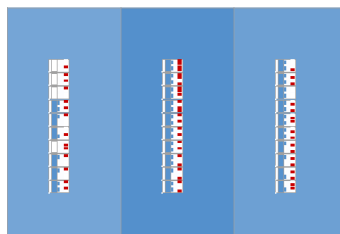

Figure 25: A portion of the expanded view.
6. A Zoom Tool, activated by the icon  in the left hand toolbar, can be used to enlarge parts of the image even more. You can click and drag a box over an area of the chip to quickly zoom into that part of the chip. Figure 25 shows a zoomed-in view of the floorplan that highlights the implemented circuit. By positioning the cursor on any logic element, the designer can see what part of the circuit is implemented in this resource. The chip planner tool has several icons that can be used to view aspects such as fan-in and fan-out of nodes, connecting paths between nodes, and so on. For more information on using this tool, refer to Help by selecting Help > Search > Contents > Achieving Timing Closure > Working With Assignments in the Chip Planner from the main Quartus® II display.